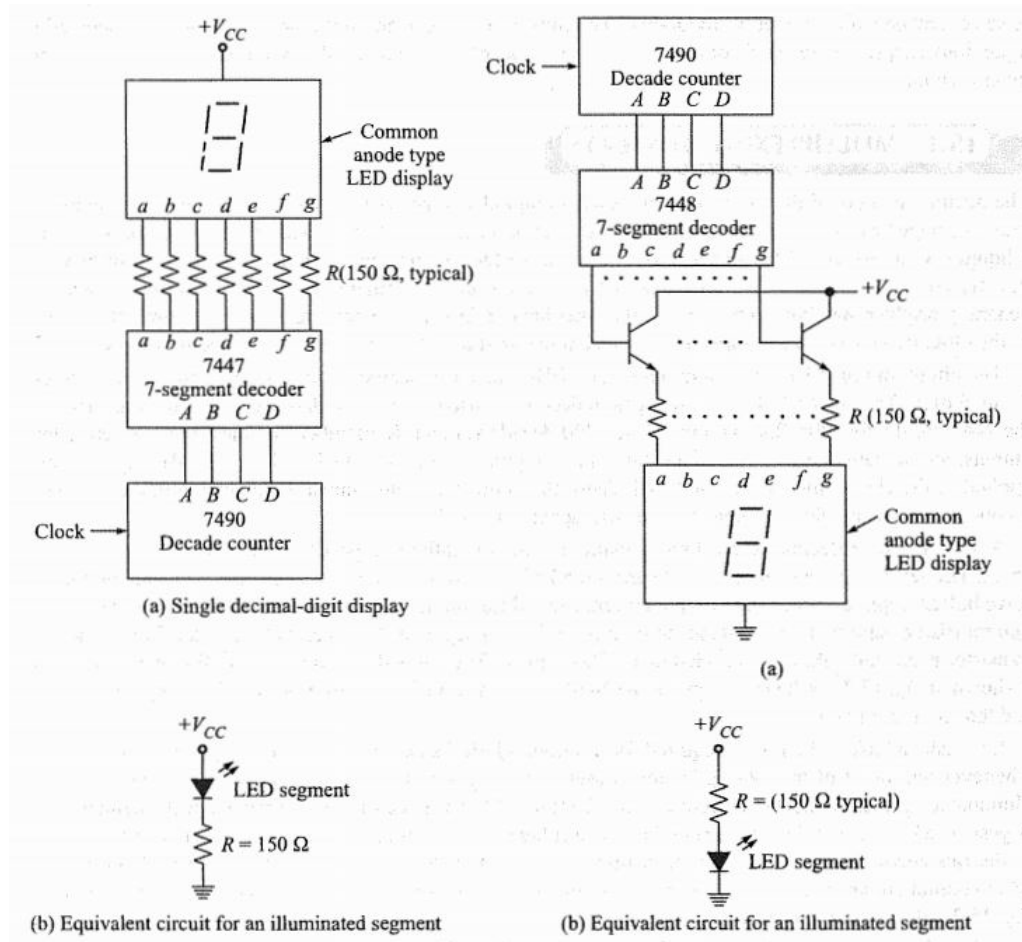

Figure 11.1: Decimal digit display.
- A digital instrument that has a four-digital decimal display will require four of circuits in figure 11.1 and thus has a current requirement of $4 \times 200 = 800\text{ mA}$.